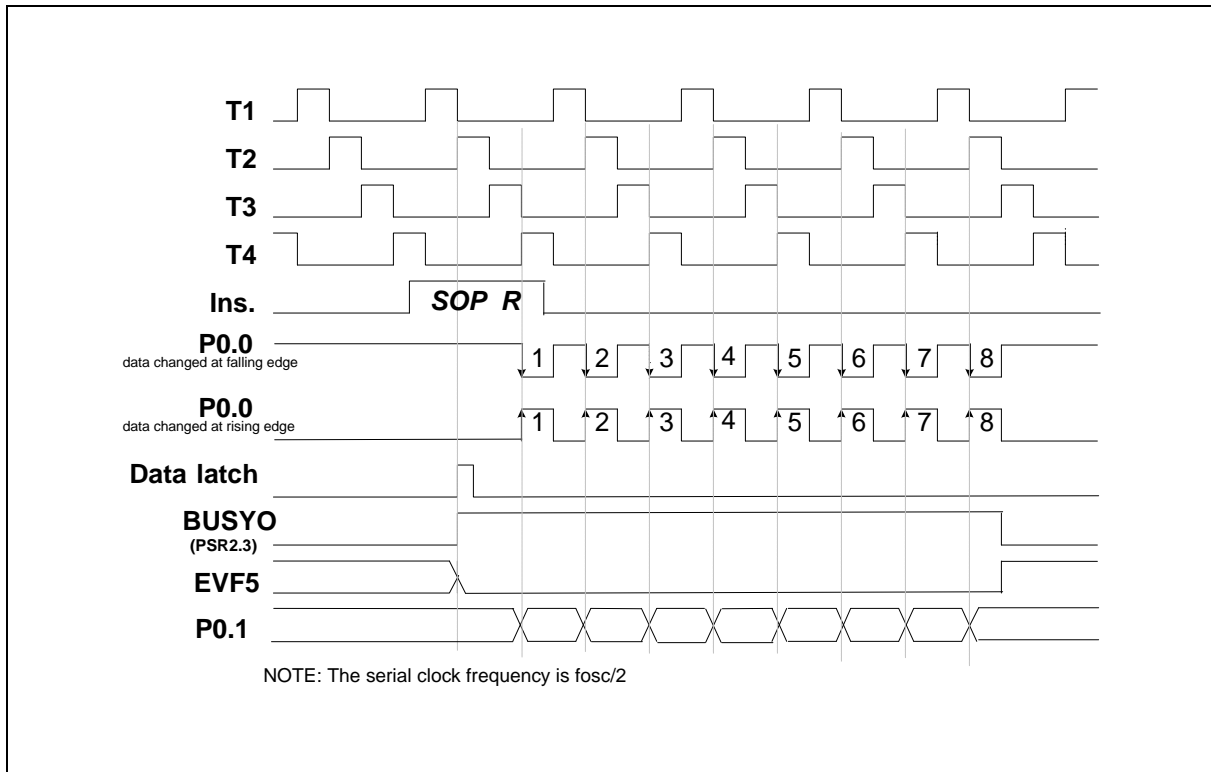

Figure 5-13 Timing of the Serial Output Function (SOP R)
- (2) When the **SOP R** instruction is executed, the data will be loaded to the serial output buffer (SOB) from ACC and the RAM, the low nibble data of SOB is from ACC register and the high nibble data is from RAM, and bit 3 of port status register 2(PSR2) will be set to "1" ( $BUSY_O = 1$ ). Then the P0.0 pin will send out 8 clocks or accept 8 clocks from external device and the data in SOB will be sent out at the rising or falling edge of the P0.1 pin. After the 8 clocks have been sent,  $BUSY_O$  will be reset to "0" and  $EVF.5$  will be set to "1." At this time, if  $IEF.5$  has been set ( $IEF.5 = 1$ ), an interrupt is executed; if  $HEF.5$  has been set ( $HEF.5 = 1$ ), the hold state is terminated. Users can check the status of PSR2.3 ( $BUSY_O$ ) to know whether the serial output process is completed or not. If a serial output process is not completed, but the SOP R instruction is executed again, the data will be lost. The timing is shown in Figure 5-13.